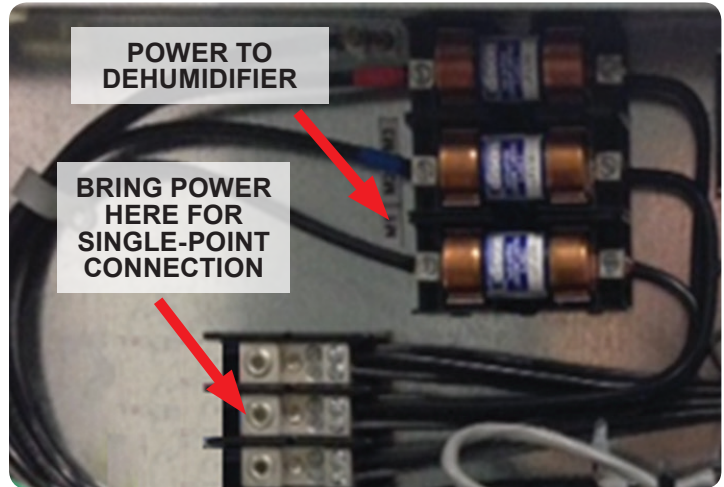

Figure 24. Electric Heater
- Dehumidifier with *electric heaters* and *single-point* power connection must have one power wires set brought to PDB (normally labeled "L1-L2-L3), located in electric heater (see Figure 24).